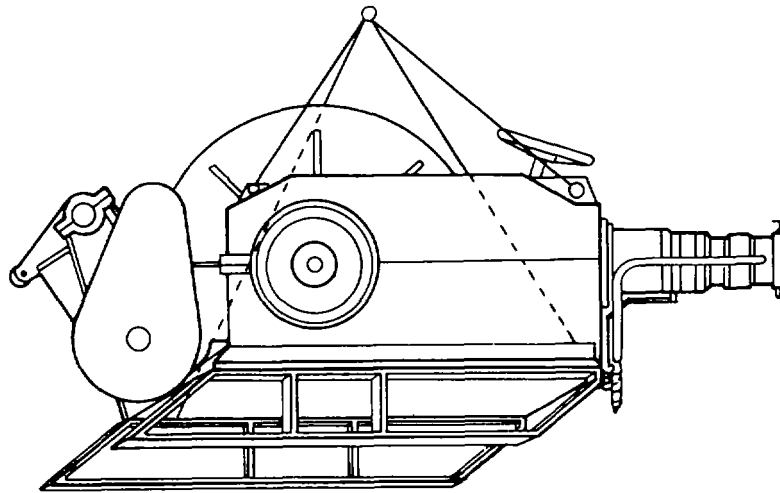

FIGURE 2-1. Stern Anchor Winch Lifting Points.
**2-5. Deprocessing Equipment.** To move winch assembly, lifting points are indicated in FIGURE 2-1. Detailed replacement procedures are given in general support instructions, Chapter 4, Section V.